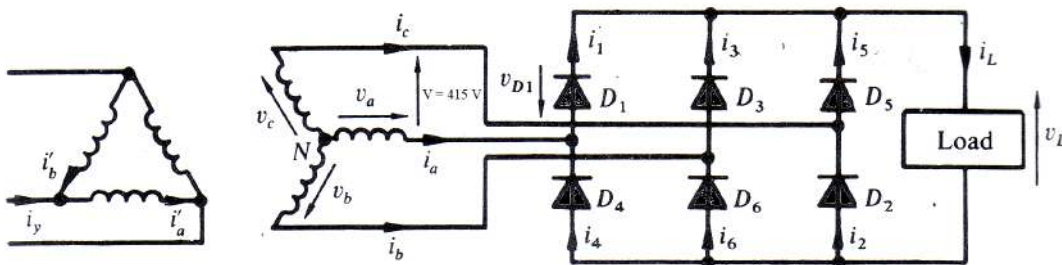

Figure Q1(d) / Rajah Q1(d)
- (d) The three phase full wave uncontrolled bridge rectifier in Figure Q1(d) use ideal diodes with supply line voltage, $V = 415\text{ V}$ and a resistive load of $R = 15\ \Omega$. Draw input and output voltage in same paper graph and calculate: